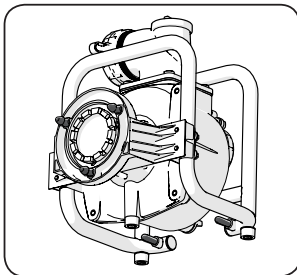

Fig 9
- Hold the accessory by its external frame and offer it up to the engine. Visually align the 3 locating pins and 2 rear stabilising pins. (**Fig. 9**) Enlist competent help if necessary. The generator in particular is heavy and help with lifting may be required.